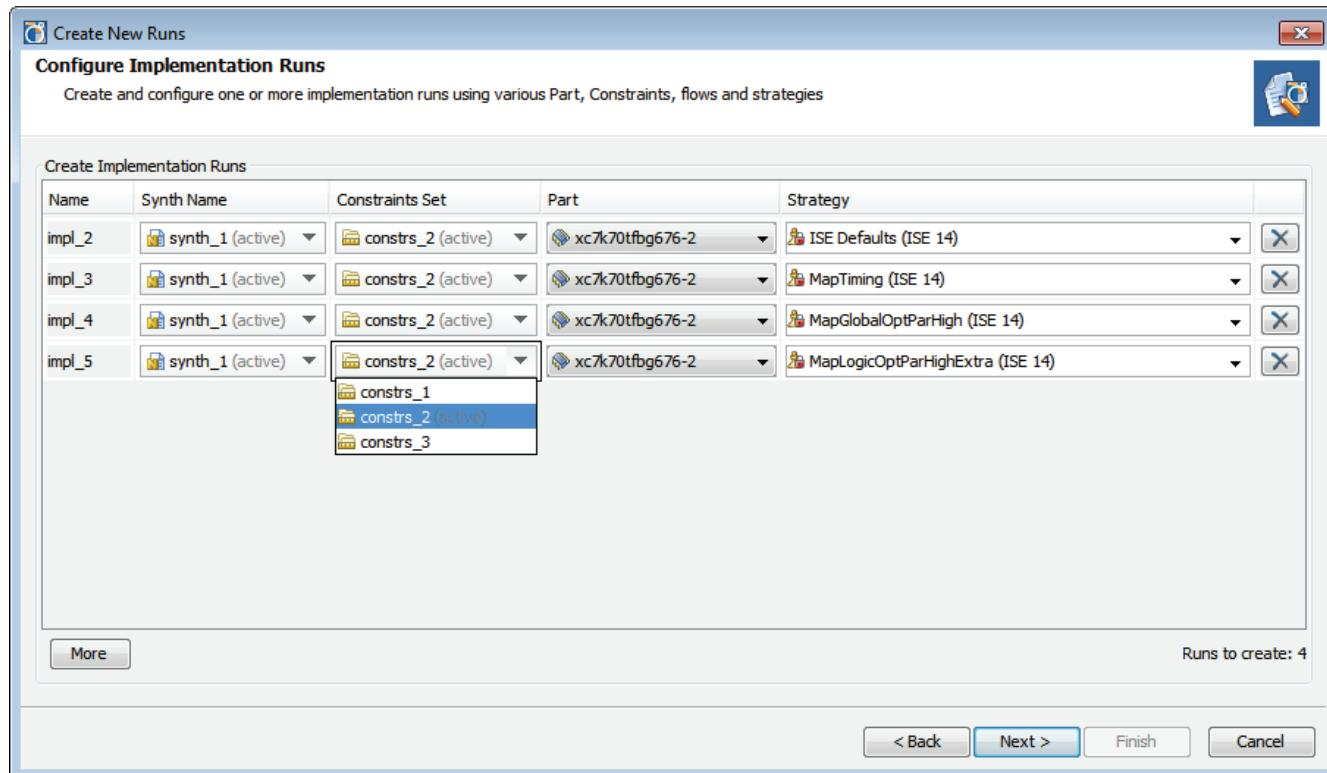

**Figure 9-1: Flow Navigator: Create Implementation Runs**
- In the Flow Navigator, click **Create Implementation Runs** from the Implementation popup menu, as shown in Figure 9-1, page 288.